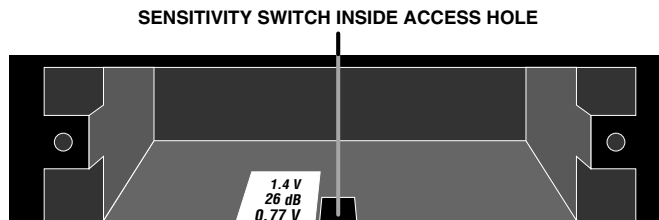

Figure 3.9 Input Sensitivity Switch
3. Locate the labeled access hole for the sensitivity switch (Figure 3.9). The sensitivity switch will not be visible because it is mounted below the hole. Use your little finger to reach it.